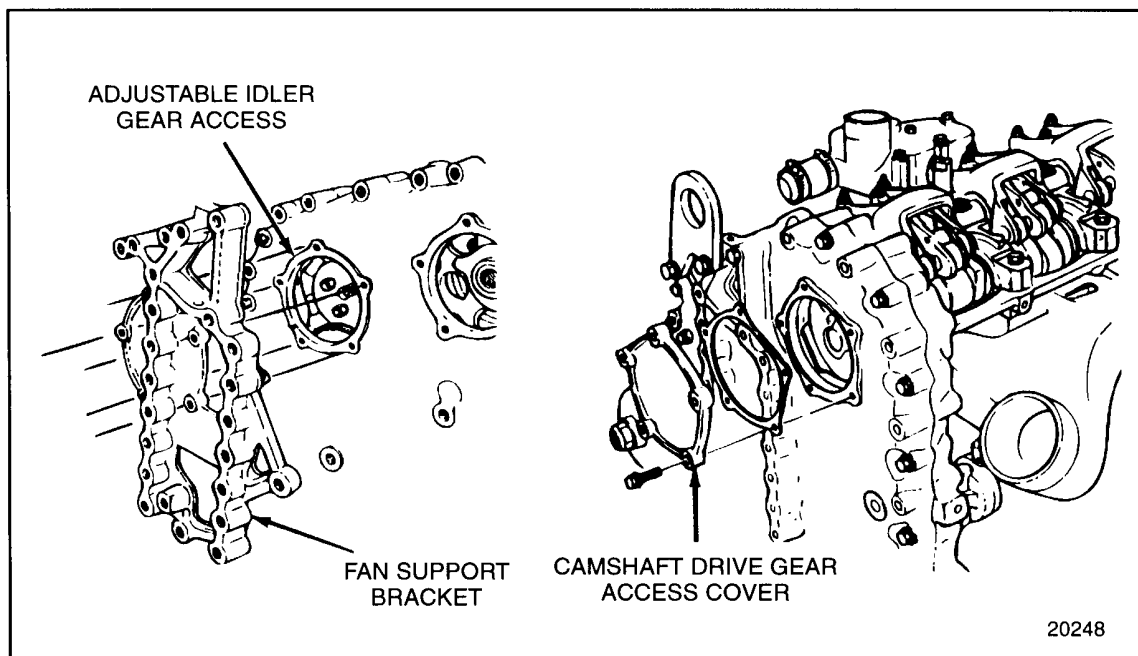

Figure 1-317 Camshaft Drive Gear Access Cover and Adjustable Idler Gear Access
4. Remove the five bolts that secure the camshaft drive gear access cover to the gear case cover. See Figure 1-317.